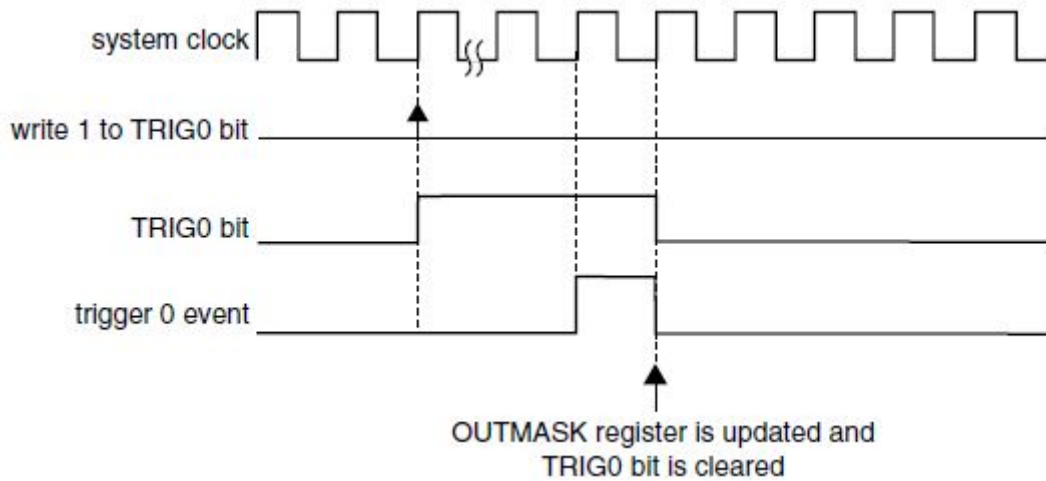

Figure 5. OUTMASK synchronization with SYNCONF[SYNCMODE] = 0, SYNCONF[HWTRIGMODE] = 0, SYNC[SYNCHOM] = 1, MODE[PWMSYNC] = 0,1, and a hardware trigger was used
- If the trigger event was a hardware trigger, then SYNC[TRIGn] is cleared. See Figure 5.